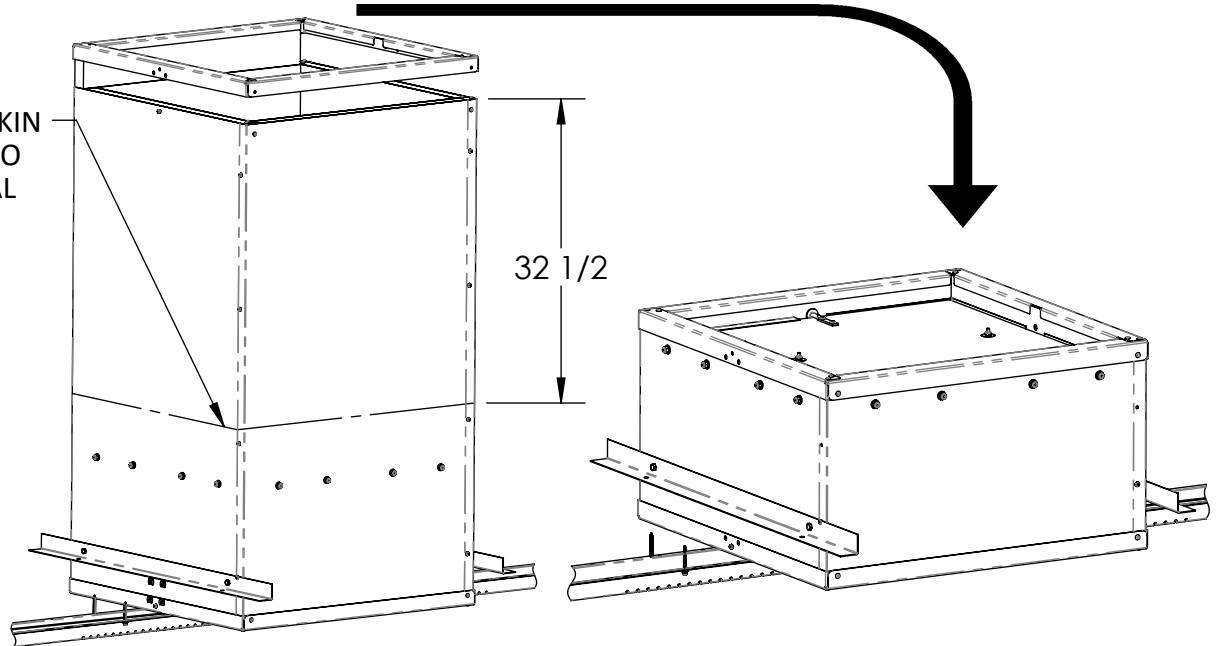

Figure 1
3. Trace a line around the panels of the chimney (32 1/2" From the top). Using a saw, cut the perimeter shown in **Figure 1**. Remove the top Aluminum cap (P-N SMP8016) and then reinstall on the newly cut section.